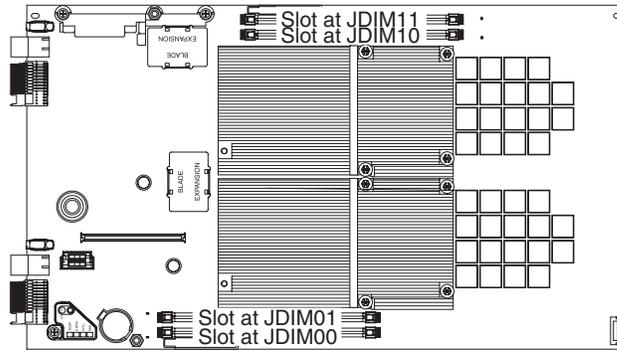

Figure 13. DIMM slot location
There are four DIMM slots, two for each Cell/B.E. companion chip. If this is the first pair of DIMMs you are installing, use slots 00 and 11. Slots 00 and 11 are the two outer slots as shown in Figure 13. For a second pair of DIMMs, use the remaining slots 01 and 10.
5. If you remove memory modules be sure to remove them in pairs. If you keep a single pair of memory modules they must be in the outermost slots, JDIM00 and JDIM11. See Figure 13 on page 37 for further information.